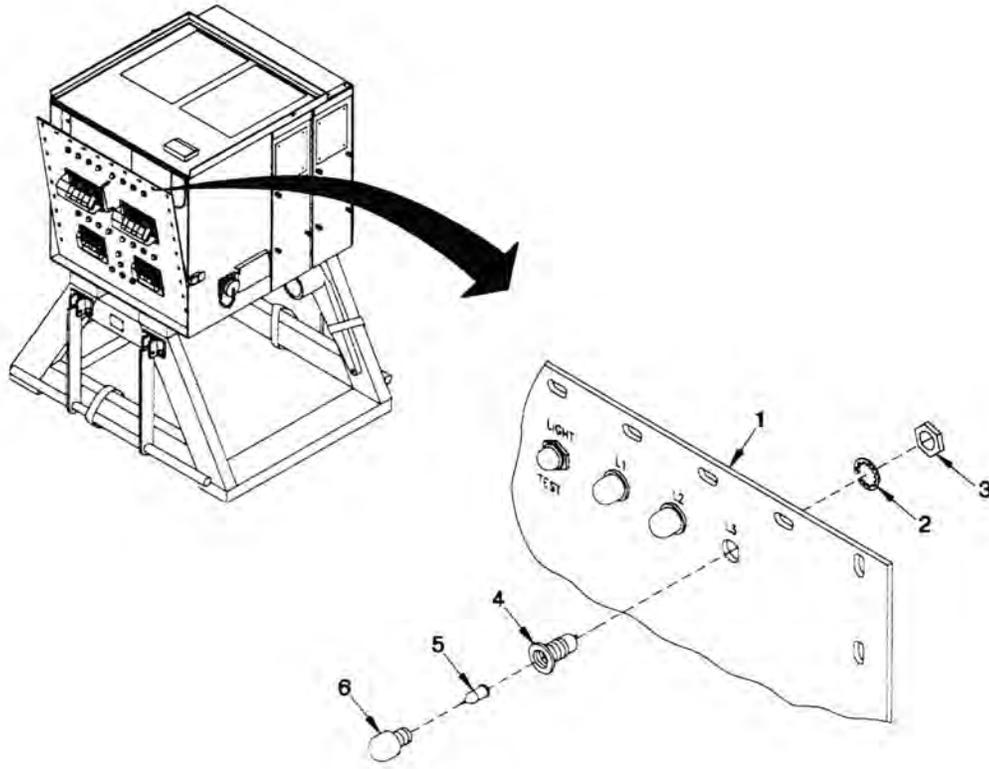

Figure 1. Lamp-holder, Front Panel (Circuits 1-4).
8. Solder wires to posts on rear of lampholder (Figure 1, Item 4). Remove tags from wires.
9. To install a new bulb, insert bulb (Figure 1, Item 5) into lens cover (Figure 1, Item 6).
10. Place lens cover (Figure 1, Item 6) with bulb (Figure 1, Item 5) inserted into lampholder (Figure 1, Item 4) and turn clockwise until tight. Do not over tighten.
11. Perform procedures in WP 0027 to secure circuit breaker panel (Figure 1, Item 1).